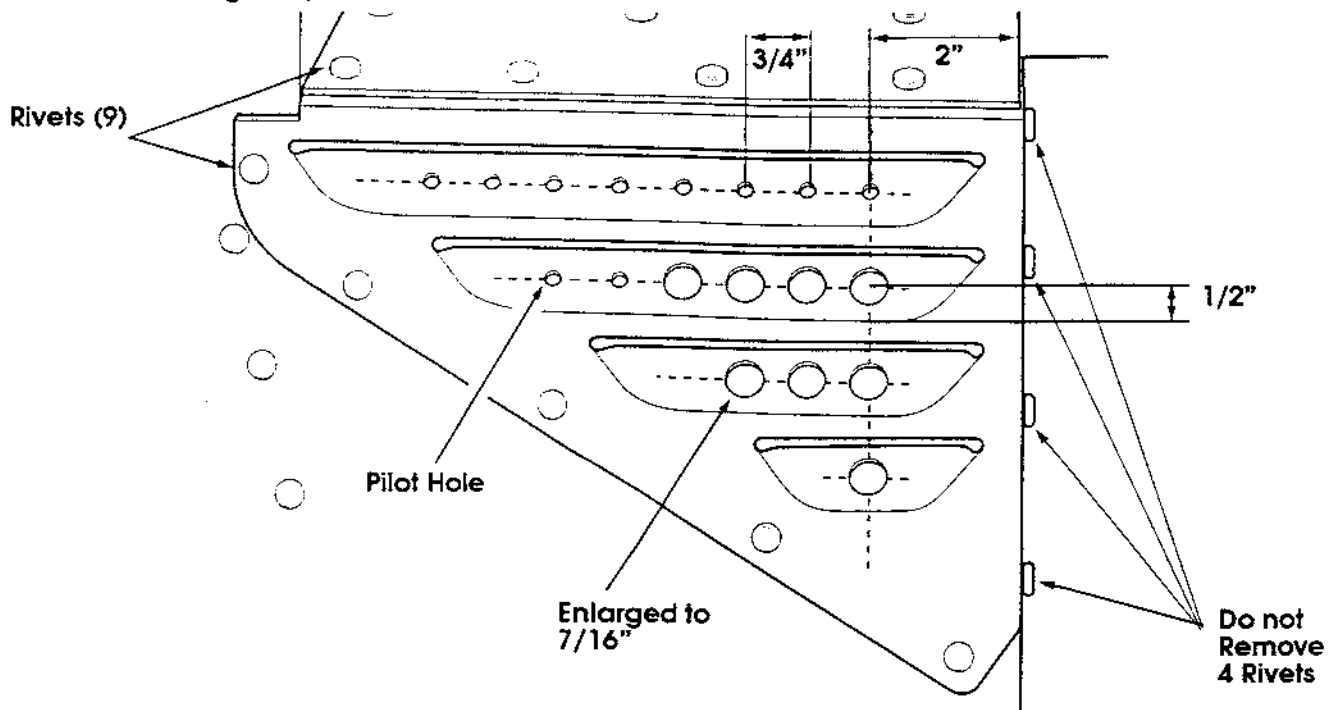

Figure 2 Fresh Air Intake Louver
7. Measuring 2" back from the forward edge of the HVAC fresh air intake vent, mark each of the 4 louvers (See Figure 2).
8. Using the 2" mark as a starting point, place marks at $\frac{3}{4}$ " increments on louvers. Do not place marks on curved ends of louvers. There will be 8 marks on the top, 6 on the second, 4 on the third, and 1 on the bottom (See Figure 2).
9. Measure $\frac{1}{2}$ " up from lower bend of each of the 4 louvers and draw a line along its entire length (See Figure 2).
10. Centerpunch at each line intersection. Pilot drill with a $\frac{3}{16}$ " bit. Enlarge holes to $\frac{7}{16}$ ", deburr the holes (See Figure 2).
11. Using a $\frac{3}{16}$ " drill bit, drill and remove 9 rivets from HVAC intake vent (side and top), do not remove the (4) forward facing rivets, and do not enlarge the holes (See Figure 2).